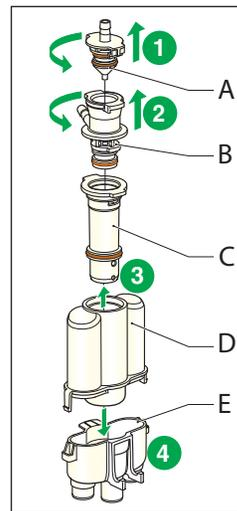

Fig. 3
- 1 Rotate and remove part A of the cappuccino maker nozzle. (Fig. 3)
- 2 Rotate and remove part B the nozzle. (Fig. 3)
- 3 Separate parts C and D from one another. (Fig. 3)
- 4 Separate parts D and E. (Fig. 3)